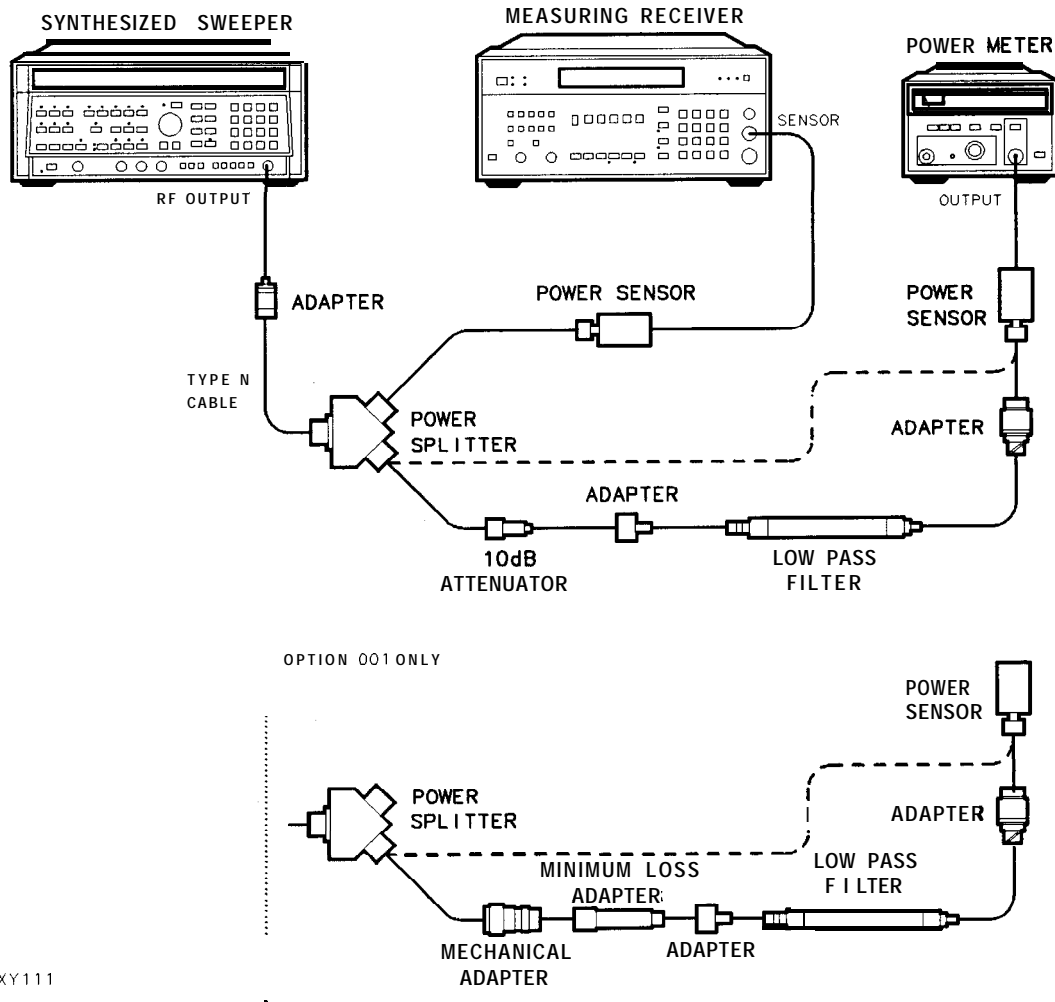

Figure 1-10. LPF Characterization
4. Connect the equipment as shown in Figure 1-10. Connect the low power sensor directly to the power splitter (bypass the LPF, attenuator, and adapters). Allow the power sensors to settle before proceeding.
7. Connect the LPF, attenuator and adapters as shown in Figure 1-10.